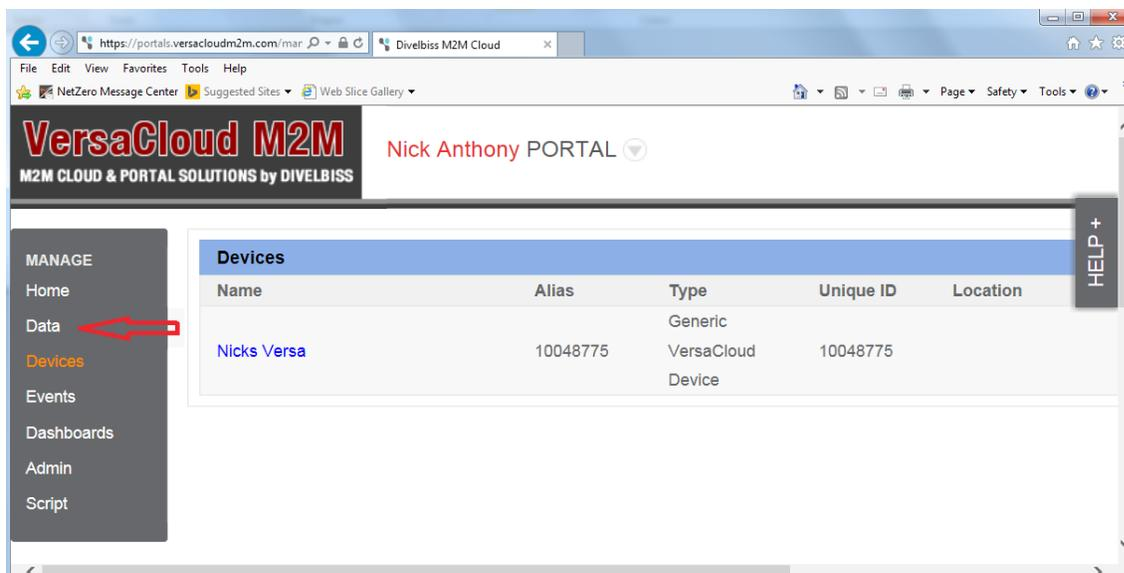
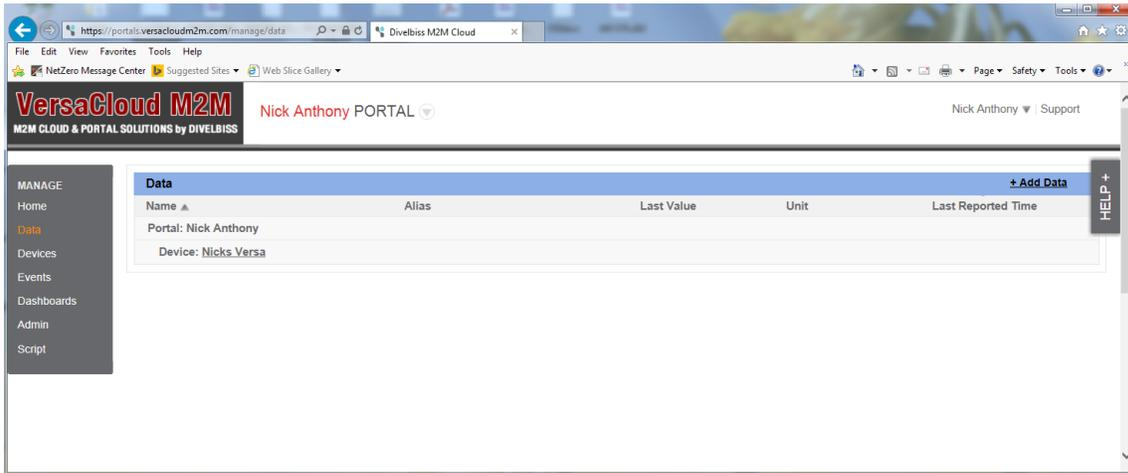

Figure 9 - Select Data Link
Figure 10 - Data Page
3. With the device added to the portal, data points must be added and configured. These points are the data that will be transmitted between the device and your VersaCloud M2M portal. Click the **Data** selection located on the dashboard page side menu (Refer to Figure 9). The Data page will open. Refer to Figure 10.